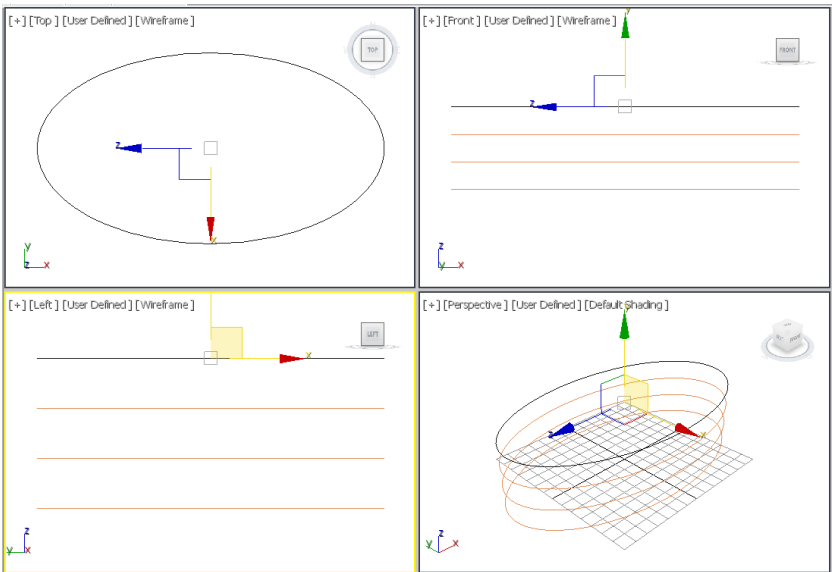

Figure 15-60 All ellipses displayed in viewports
5. Choose the **Select and Move** tool. Next, select *Ellipse001* in the Front viewport and move the cursor over its Y axis. Press and hold the SHIFT key and the left mouse button and then move *Ellipse001* in the upward direction until the value of the **Y** spinner in the coordinates display becomes about 16. Now, release the left mouse button and the SHIFT key; the **Clone Options** dialog box is displayed. Set the value **3** in the **Number of Copies** spinner and choose the **OK** button; *Ellipse001*, *Ellipse002*, *Ellipse003*, and *Ellipse004* are displayed in viewports, as shown in Figure 15-60.